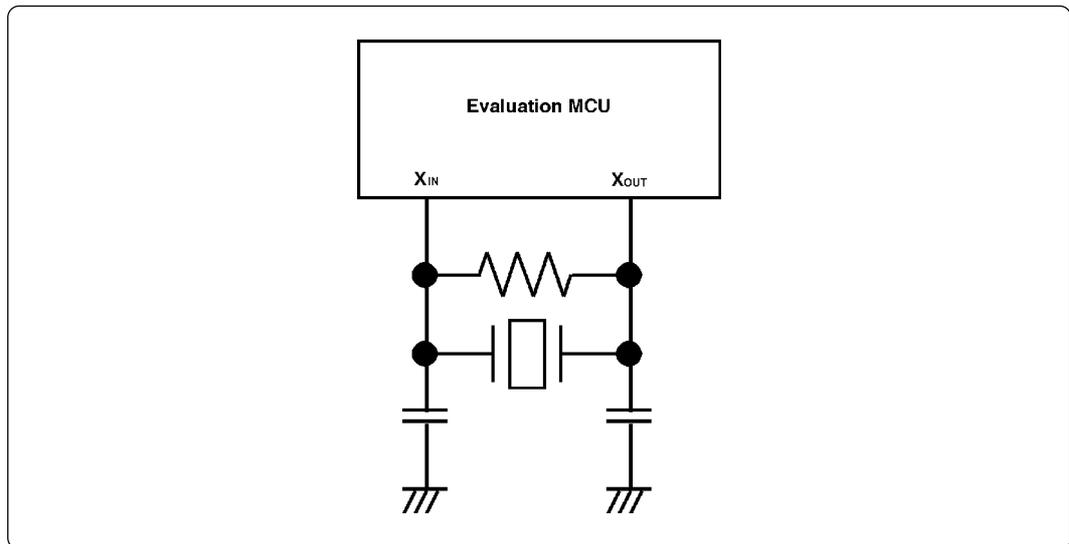

Figure 3.5 Circuit in which oscillation does not occur (same for X_{CIN} - X_{COUT})
- Make note of the fact that in the oscillator circuit shown in Figure 3.5 where a resonator is connected between the X_{IN} and X_{OUT} pins, oscillation does not occur because a flexible cable, pitch converter board and other devices are used between the evaluation MCU and the target system. It is same for sub-clock oscillator circuits (X_{CIN} and X_{COUT}).
(2) Changing the Internal Oscillator Circuit of Emulation Pod